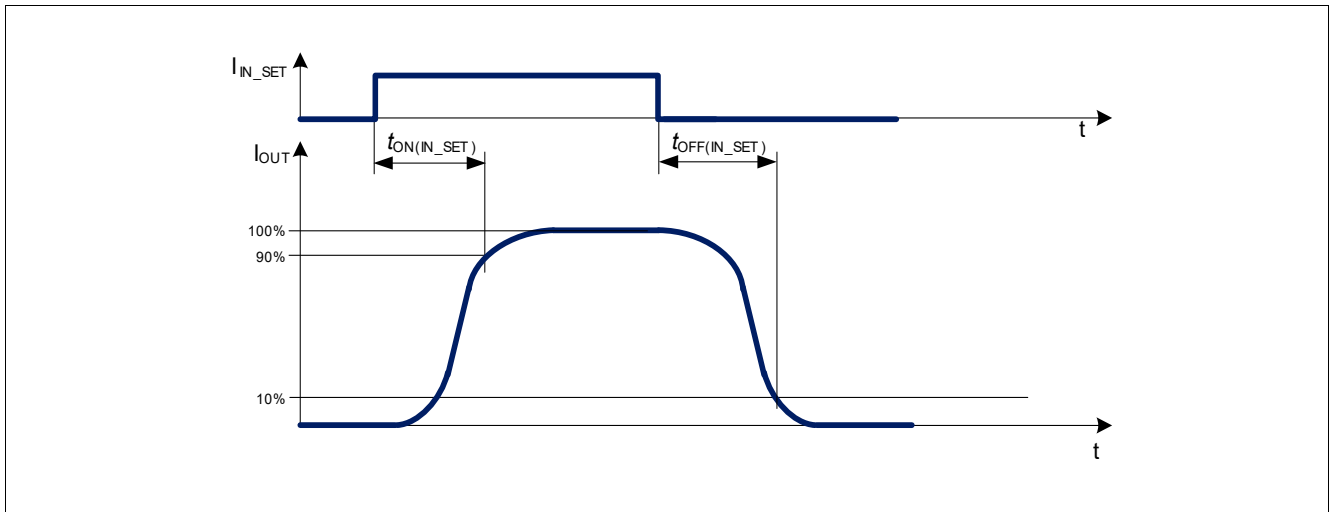
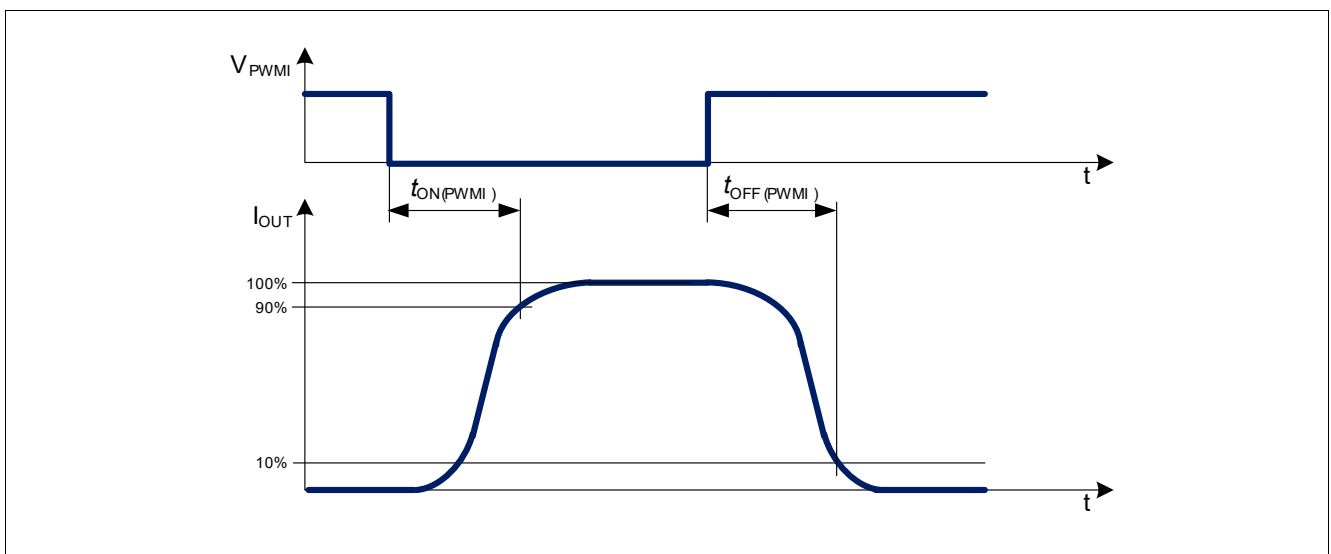

Figure 12 IN_SET turn on and turn off delay timing diagram
Figure 14 PWMI turn on and turn off timing diagram
In the following diagrams (Figure 12, Figure 14) the influences of different driving inputs on output activation delays are shown.
- 2) Refer to Figure 12
- 4) Refer to Figure 14